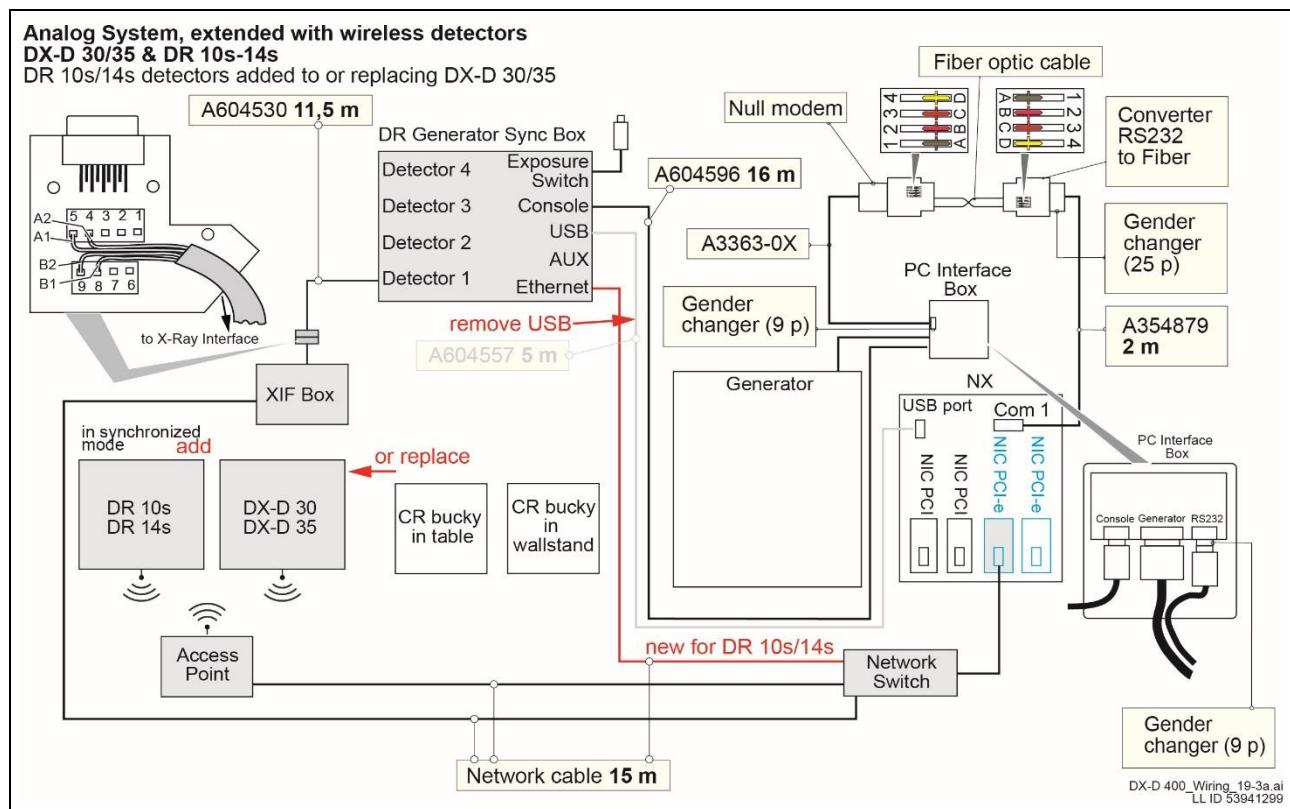

Figure 14: Analog system – DR 10s/14s detector added to installed DX-D 30/35 detectors
- (6) Install Trixell detector software TRI 2.1 (or later).
- (7) Install the DR 10s/14s detectors in synchronized mode.
- Wiring diagram for analog systems, refer to Figure 14.